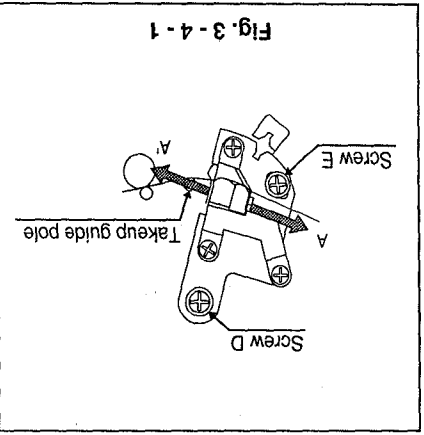
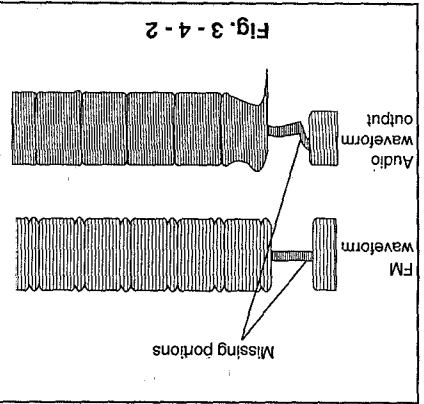

Fig. 3-4-1
Fig. 3-4-2
- 1 Set the VCR to the playback mode. (Use the alignment tape specified below to perform adjustment ①~④.)
- 6 Connect TP2A (the FM waveform output) and the audio output terminal to the oscilloscope, external Trig. to TP2H, and check if the missing portions of the FM waveform and that of the audio waveform are within the specified value (field). (Refer to Fig. 3-4-2.)
- 7 If they are not within the specified value, repeat the procedure ③.
- 12 Push the A/C head to the right and left (in the direction of A-A' in Fig. 3-4-1) and then release the A/C head. Check that the amplitude of the FM waveform does not change from that before shifting the A/C head.